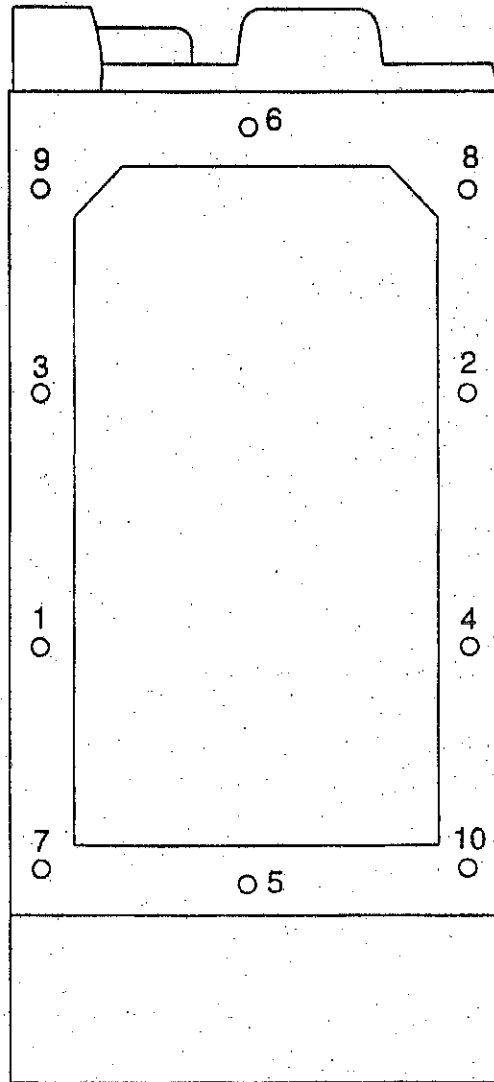

Fig 4 Screw tightening sequence
48.2 Tighten the ten securing screws to 0.35 Nm to 0.39 Nm in the sequence shown in Fig 4.